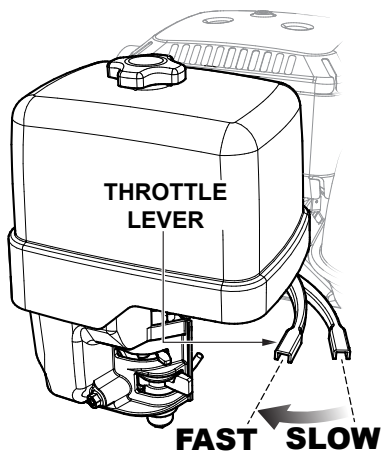

Figure 20. Throttle Lever
- Rotate the throttle lever (Figure 20) halfway between fast and slow for starting. All sawing is done at full throttle. The engine governor speed is factory set to ensure optimum blade operating speeds.
- Rotate the throttle lever (Figure 20) toward full throttle.
1. Place the engine throttle lever (Figure 20) in the slow position, and listen for the engine speed to decrease. Allow engine to run for 2 or 3 minutes for proper cooldown.